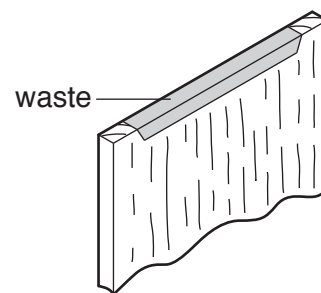

Fig. 14
- (d) Fig. 14 shows the shaping to be carried out to one end.